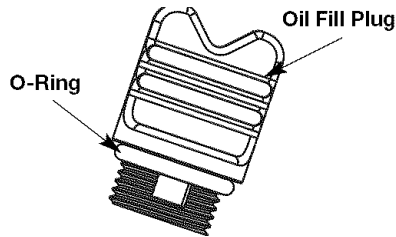

Fig. 18
**NOTE:** Make sure the O-ring is in place on the oil fill plug when checking and changing the oil (Fig. 18).